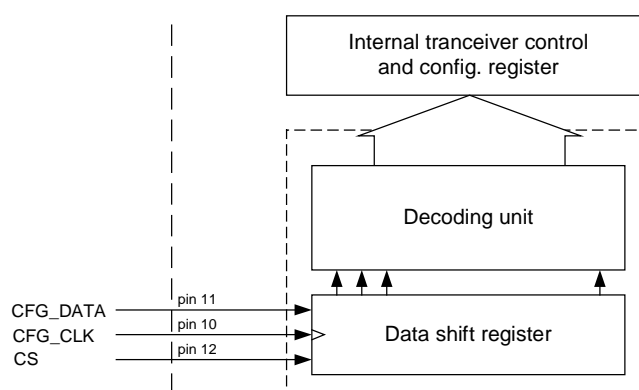

Figure 5. Serial Peripheral Interface (SPI) for chip configuration
Chip select (CS) is used to enable the transceiver configuration mode. Figure 5 illustrates the serial interface block diagram.